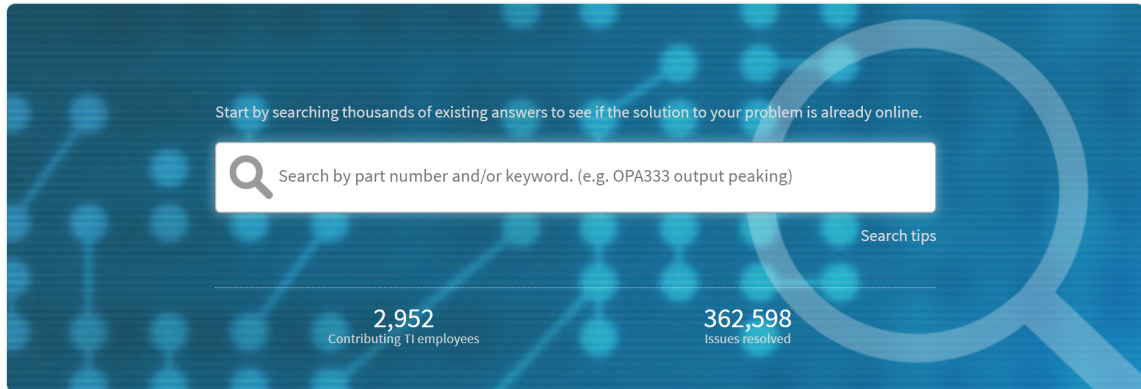

Figure 2-4. TI E2E Support Forums
- Figure 2-4 shows the four main sections in the TI E2E forum.